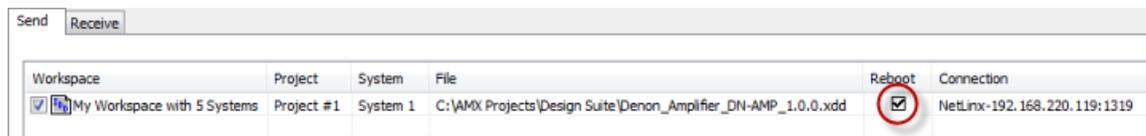

FIG. 110 File Transfer dialog (send tab) - Reboot option selected
5. Verify that the **Reboot** option is selected (FIG. 110):